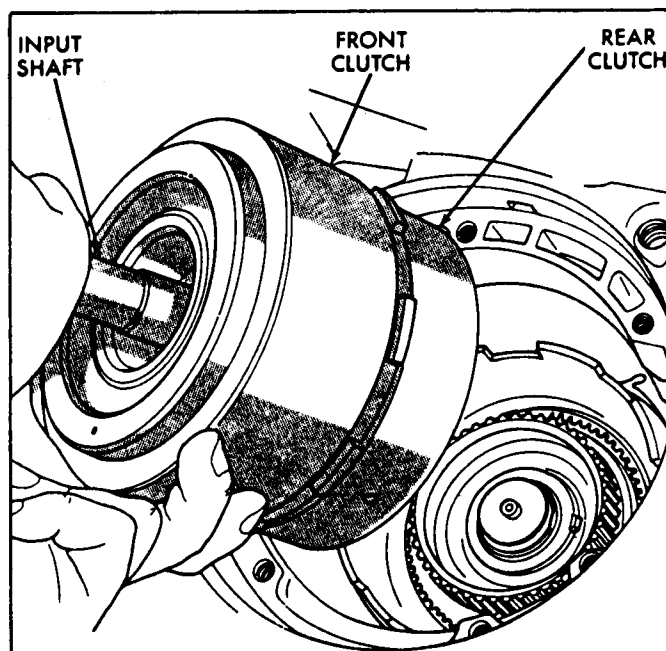

Figure 18
30. Remove front and rear clutch drums as an assembly, by lifting straight up on the turbine shaft, and remove them from the case (See Figure 18).